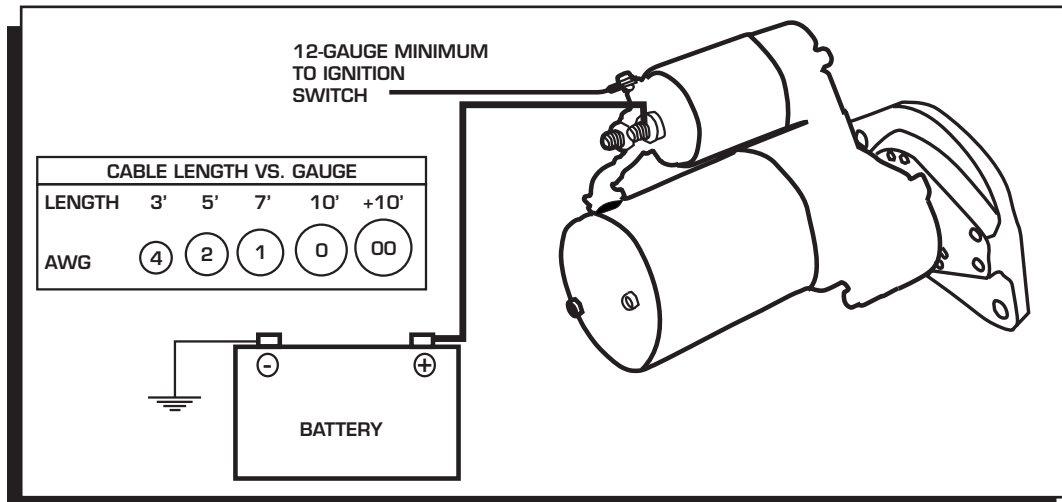
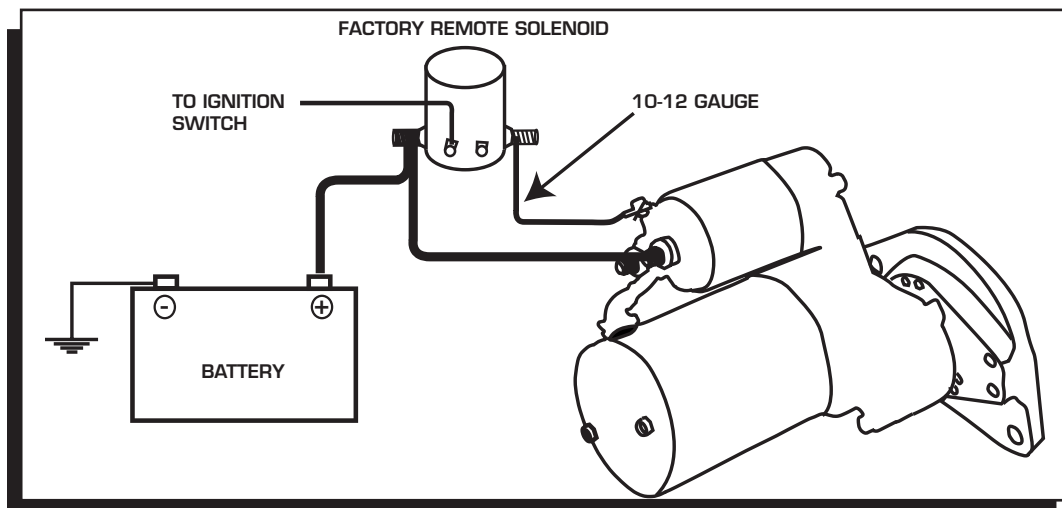

Figure 4 Wiring the Starter.
Figure 5 Wiring to Incorporate Factory Solenoid.
5. The switch wire that connects to the solenoid should be at least 12-gauge (Figure 4). For alternative wiring to incorporate the factory remote solenoid, See Figure 5.
6. Attach the battery cable. The gauge of the battery cable depends on its length. Using the proper gauge wire is important to the operation of the starter. Both the positive and ground wires must be able to meet the demands of the starter. The chart in Figure 5 shows the recommended sizes. Be sure to route the wire away from the exhaust and moving parts of the engine.